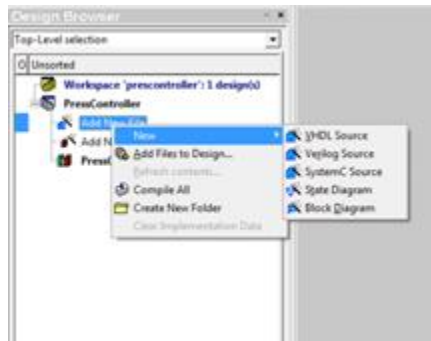

Figure 5 Adding Files to the Design
- You can also use **File | New** menu to open new files and save it to design directory. (Refer to Figure 5)